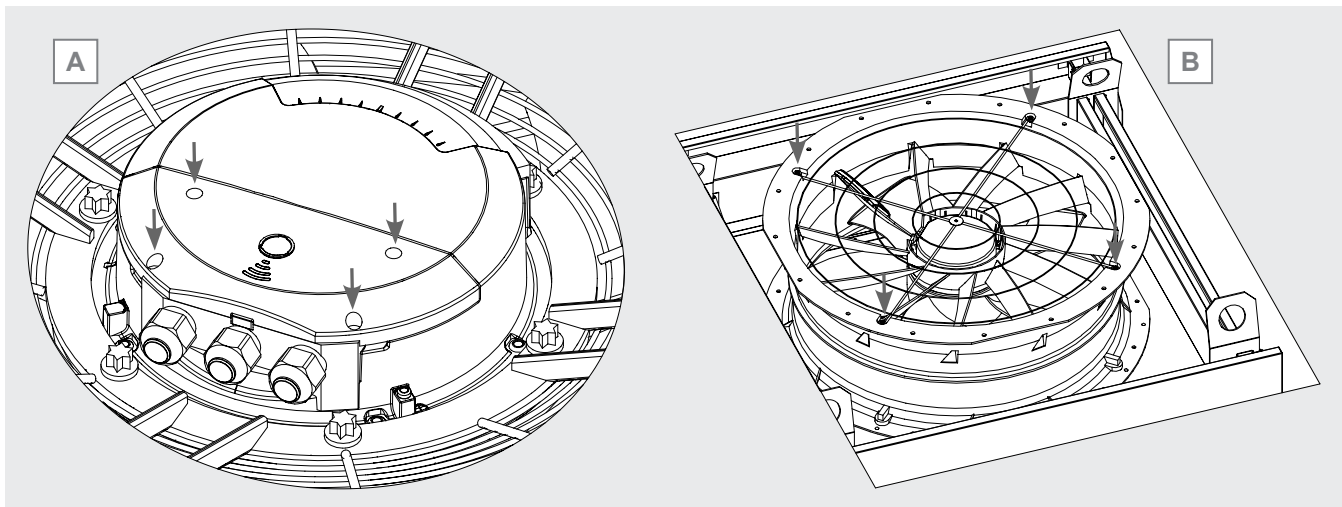

Figure 5
- radial and planar mount motorfan: the box is normally accessible. Unscrew the screws securing the cover and remove it. Store the cover in a suitable place. Shape, size and fixing points of the cover vary according to the make and model of fan: as an example, see Figure 5 A.
- motorfan with integrated fan shroud: unscrew the screws that attach the motorgrille to the fan shroud. See Figure 5 B. Remove the grille and store it in a suitable place. Locate the motor junction box. Unscrew the screws that secure the cover and remove it. Store the cover in a suitable place. The shape, size and attachment points of the cover vary according to the make and model of fan: as an example, see Figure 5 A.